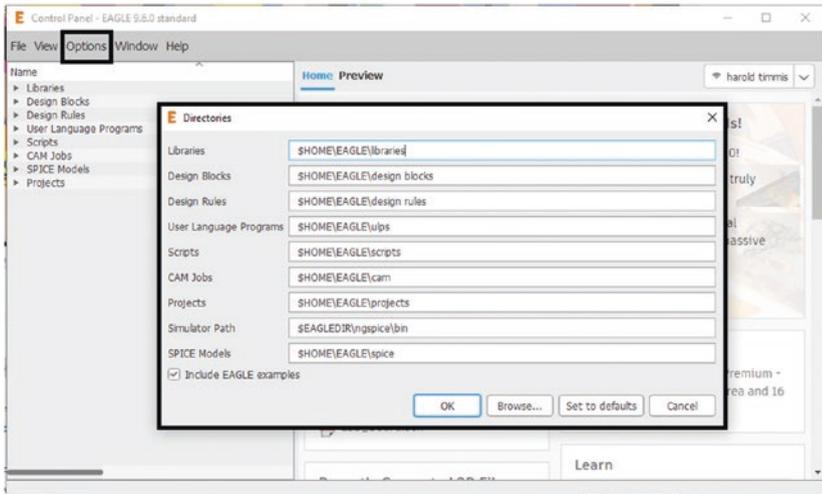

Figure 5-9. Open Directories
7. Go to Eagle and select Options ► Directories, and the Directories window will appear. See Figure 5-9.